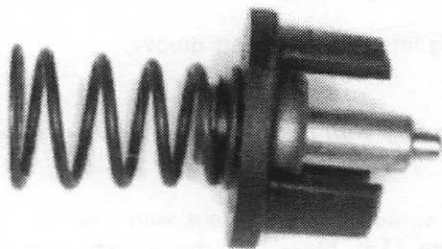

Figure 123
- Assemble the thermostat, thermostat holder and compression spring (Figure 123) and install into the cylinder head with the spring end facing down.